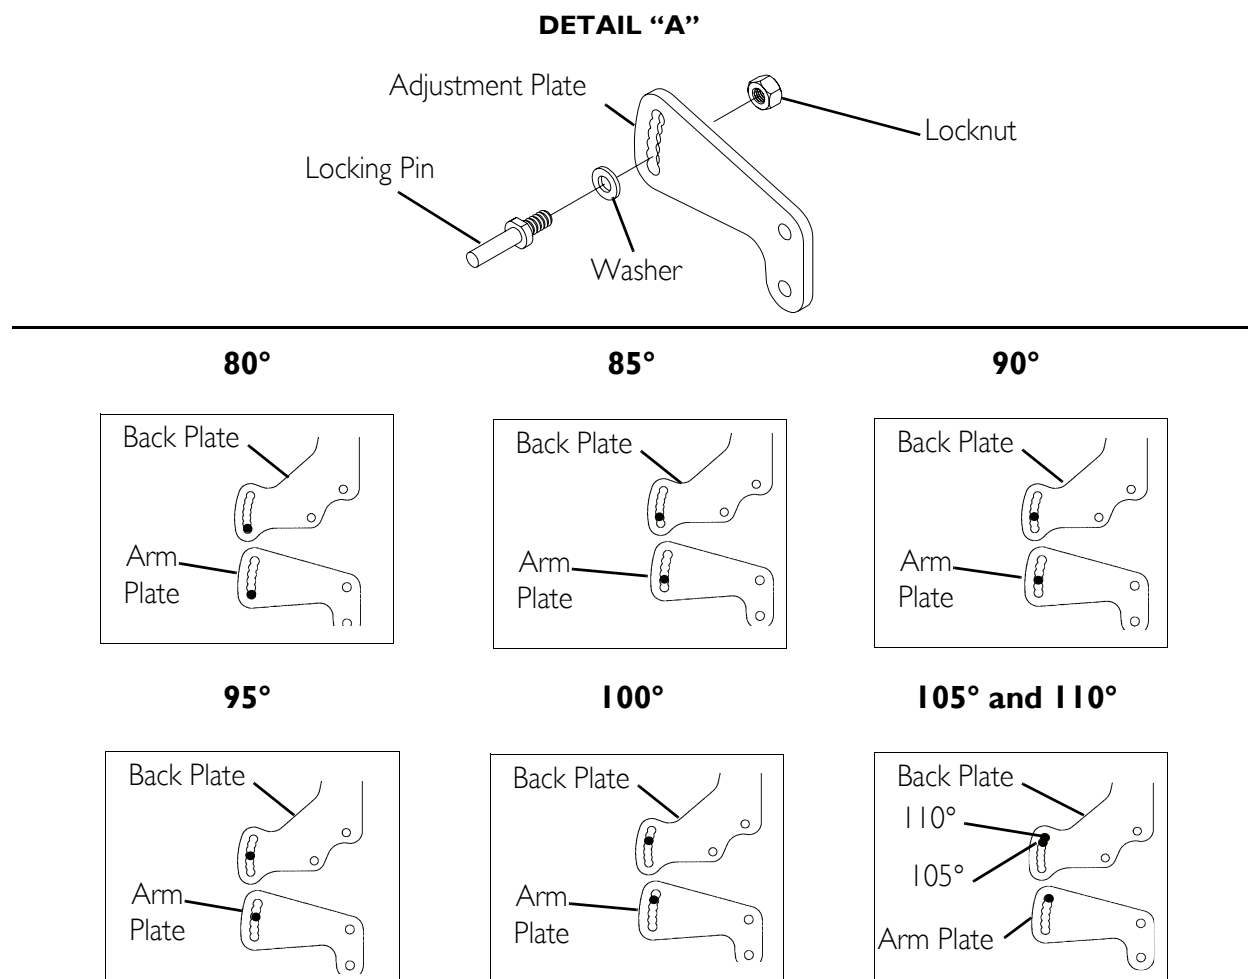

FIGURE 6.7 Adjusting Arm Angle to Corresponding Back Angle
NOTE: For this procedure, refer to FIGURE 6.7 on page 50.
3. Determine the mounting hole in the arm adjustment plate that will be used to correspond to the back angle (FIGURE 6.7).